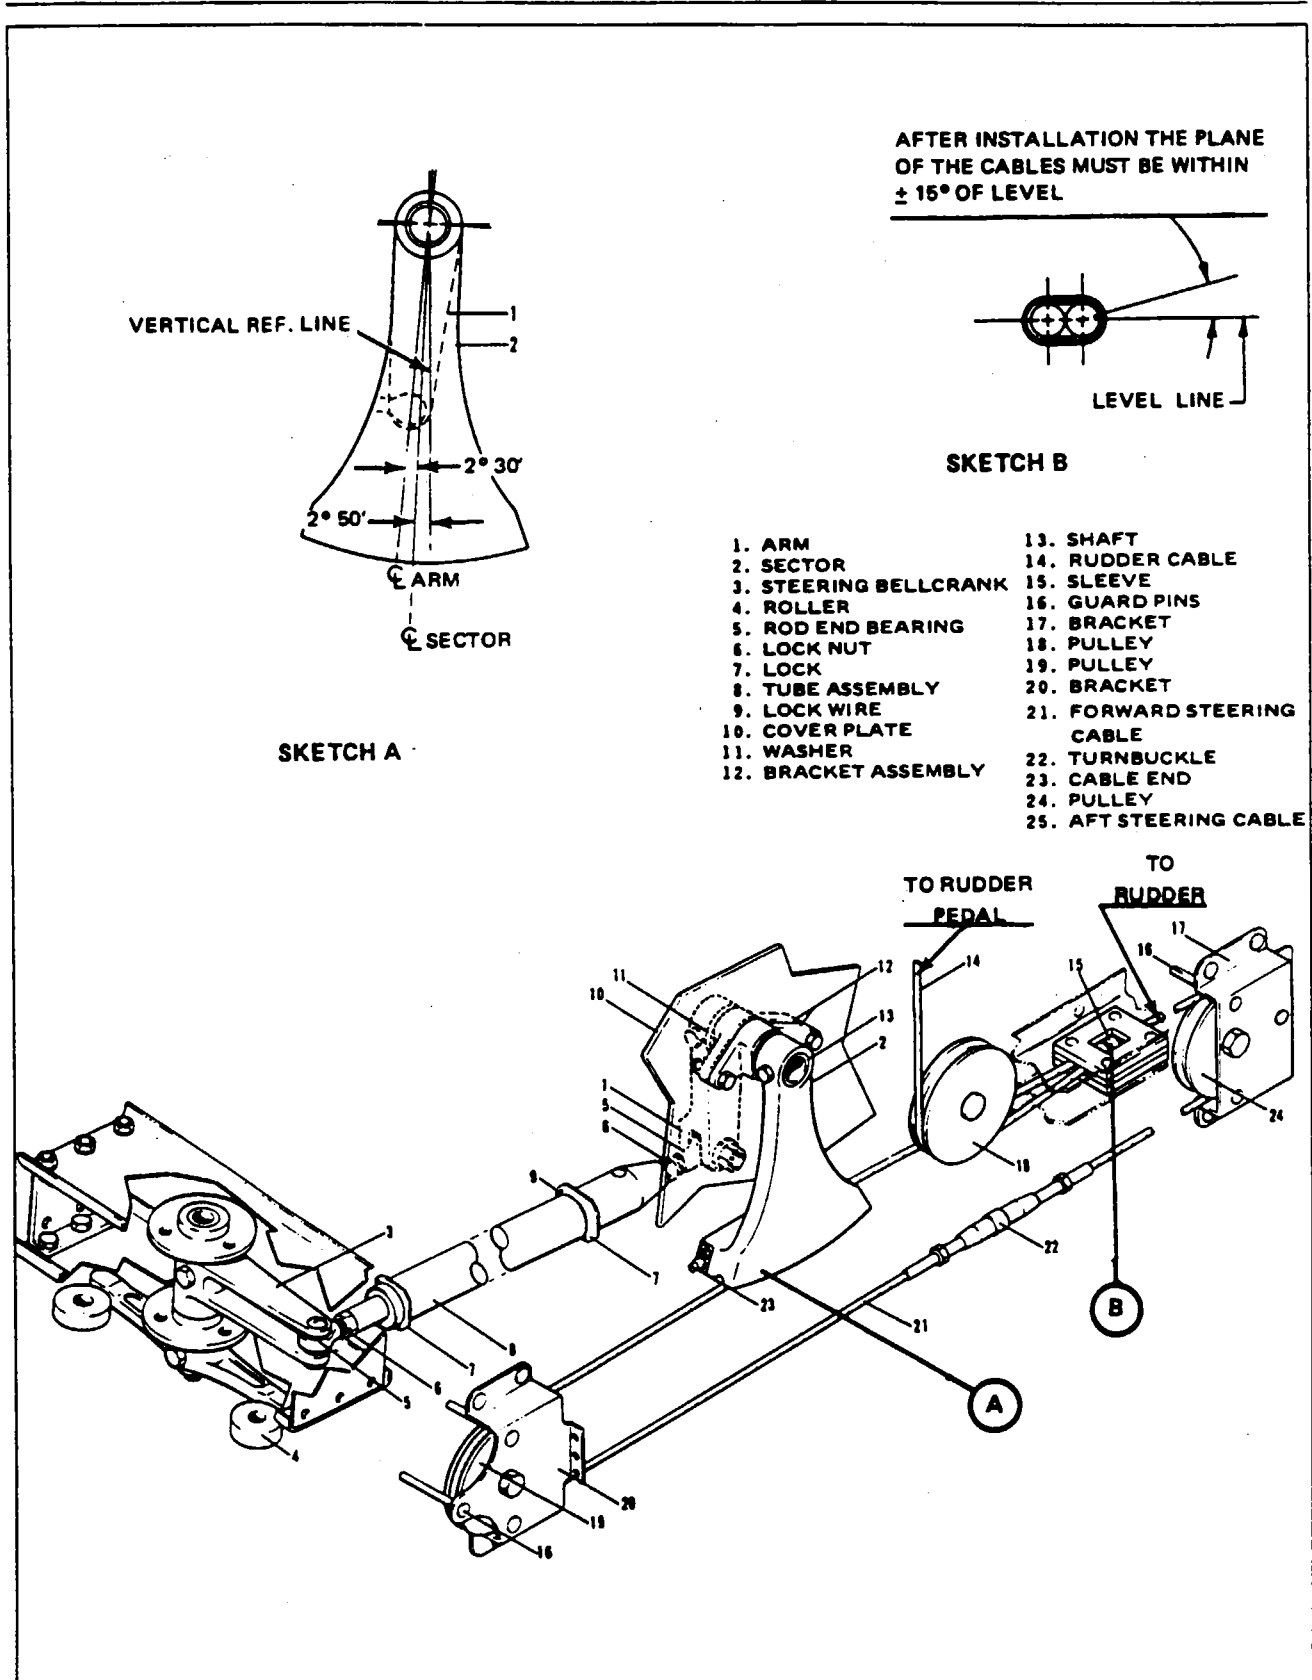

Figure 7-6. Nose Gear Steering Adjustment
- h. Adjust the rod end bearings of the steering rod to align the nose wheel with the chalk line. To align the nose wheel straight forward, stand in front of the nose gear and align the center rib of the tire with the chalk line or lay a straightedge along the side of the tire and parallel the straightedge with the chalk line. One end of the rod must be disconnected and jam nuts loosened to make this adjustment, but do not attempt to make the adjustment by means of one bearing, but divide the adjustment between the bearings at each end of the rod. Check that rod ends have sufficient thread engagement, reinstall rod and secure jam nuts. (Refer to Figure 7-6.)
7-18. REMOVAL OF NOSE GEAR STEERING MECHANISM. (Refer to Figure 7-6.)
- f. Inspect the nose gear steering cable. Refer to the latest revision of Piper Service Bulletin 372 and Figure 7-6.
7-20. INSTALLATION OF NOSE GEAR STEERING MECHANISM. (Refer to Figure 7-6.)